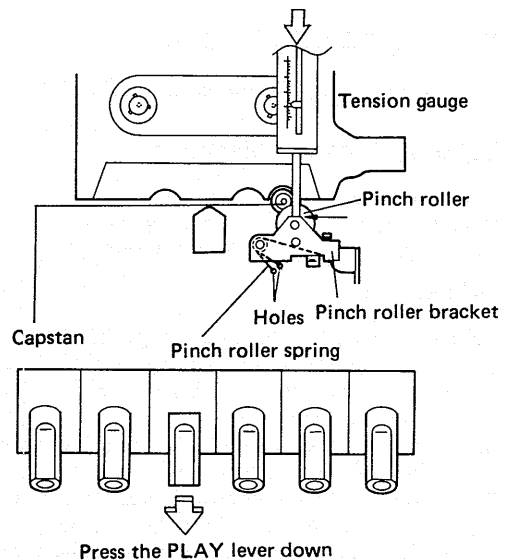

Fig. 19
6.1 PINCH ROLLER PRESSURE (Fig. 19)
2. Push the tension gauge against the pinch roller as shown in Fig. 19.